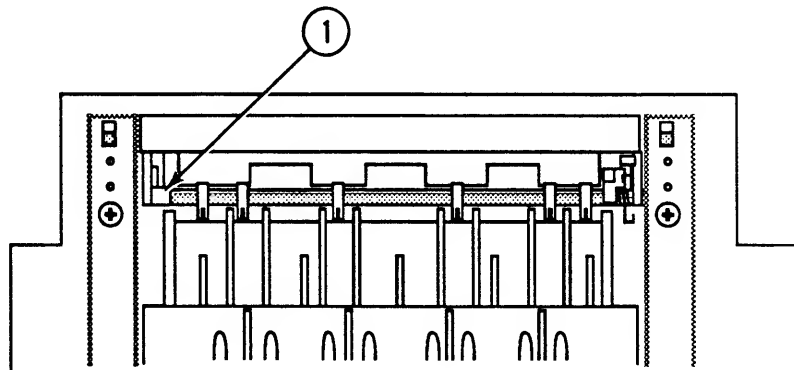

FIGURE 82
2. Release the left side (Figure 82, #1) of the paper deflector from the top cover by pressing downward on the deflector.
1. Place the paper deflector in position. Refer to Figure 82 for correct placement of the spring.